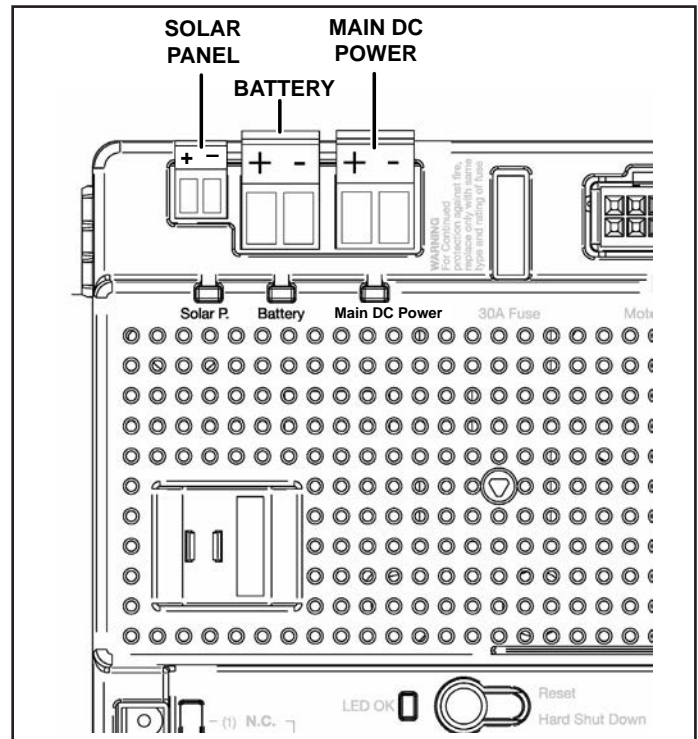

Figure 13 -Incoming Power on 1050 Board
7. Using the CLOSE button on the front of the Control Board, hold the button down until the gate reaches the fully intended closed position. See Figure 13, Steps 1-2-3.
8. Adjust the Closed Limit Switch as done for the Open limit: loosen the set screw and move the arm for the close limit until the RED light illuminates on the front of the control board (see Figure 13 steps 4-5-6-7). When the CLOSED limit switch is set, tighten the set screw to hold it in place (see Figure 13, Step 7).